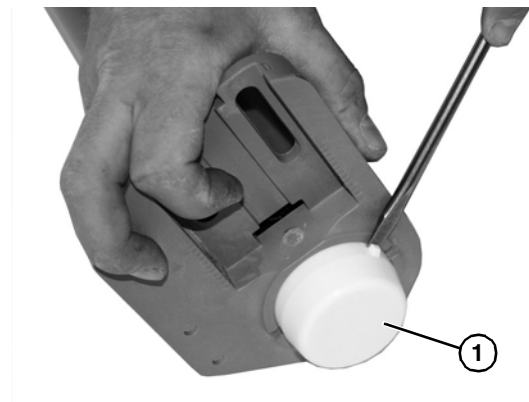

Figure 63
4. Remove the bearing cover (Figure 63, item 1). Repeat on opposite side.